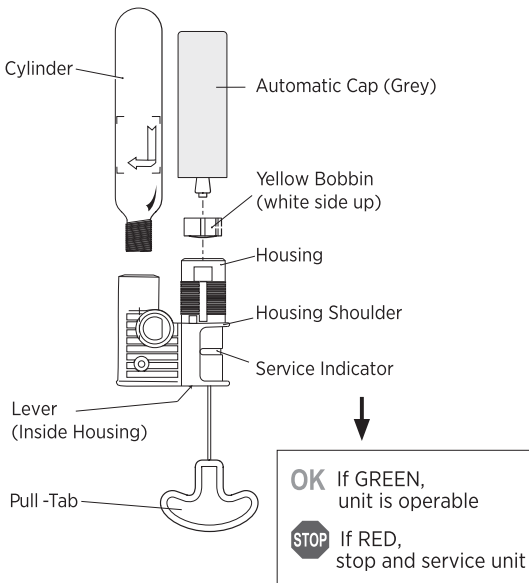

FIGURE 7 MD2030 (US)/MD 2040 (CAN) AUTOMATIC MODE
5. **IMPORTANT!** The yellow bobbin must be installed into the housing (Fig. 7), white side up, aligning the slots on the bobbin with the ridges inside the threaded housing. The bobbin will slide in.
1. Open the inflator cover flap to expose the inflator (Fig. 7).
7. **IMPORTANT!** Bobbin (yellow) must be installed into the housing (Fig. 7), white side up, aligning the slots on the bobbin with the ridges inside the threaded housing. The bobbin will slide in.
11. Examine the service indicator (Fig. 7) and ensure it is GREEN. If the service indicator is red, the mechanism has been fired or is incorrectly fitted and the inflator requires service.